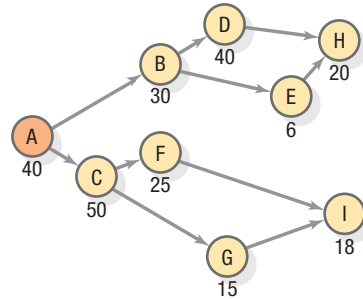

FIGURE 7.4
Figure 7.4 shows the complete diagram. We begin with work element A, which has no immediate predecessors. Next, we add elements B and C, for which element A is the only immediate predecessor. After entering time standards and arrows showing precedence, we add elements D and E, and so on. The diagram simplifies interpretation. Work element F, for example, can be done anywhere on the line after element C is completed. However, element I must await completion of elements F and G.
Most followers	When picking the next work element to assign to a station being created, choose the element that has the most followers (due to precedence requirements). In Figure 7.4, item C has three followers (F, G, and I) whereas item D has only one follower (H). This rule seeks to maintain flexibility so that good choices remain for creating the last few workstations at the end of the line.